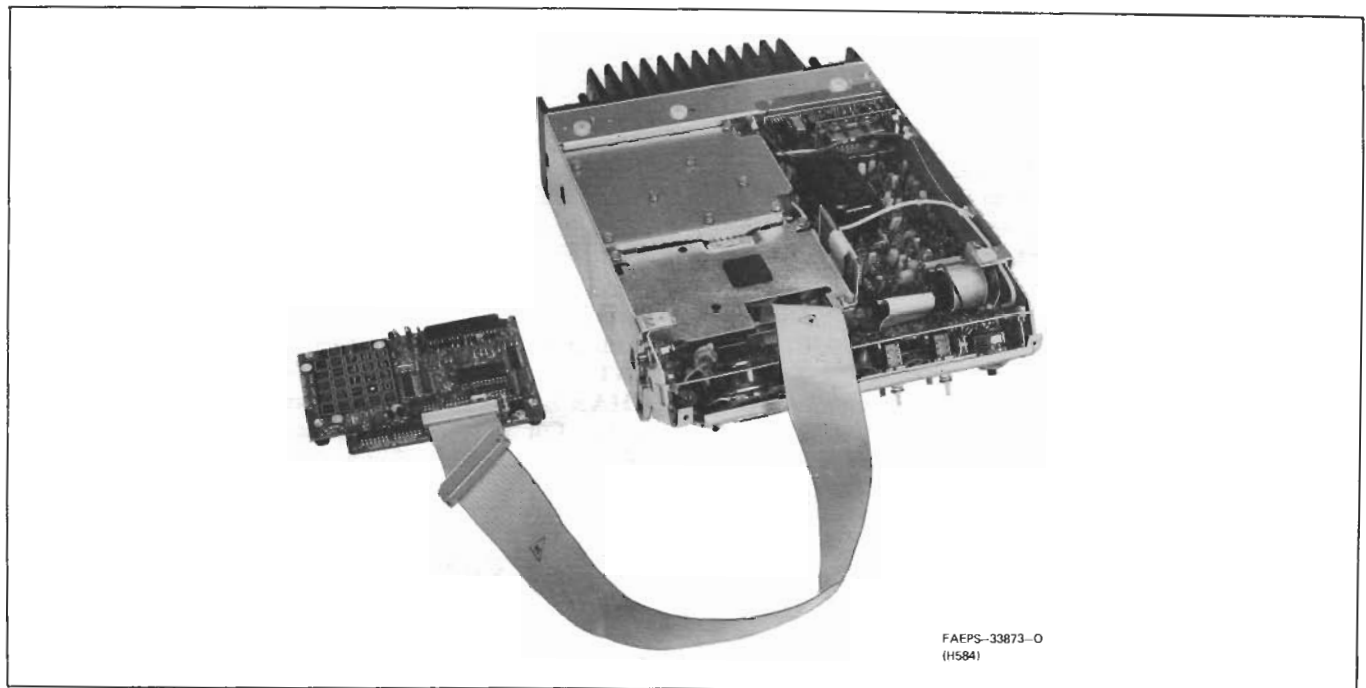

Figure 4. Programming Board With Extension Cable
Step 4. Locate the 34-pin programming board connection header on the "S" board through the opening in the shield. Carefully attach the female connector on extension cable to the header. Carefully attach the connector on the programming board cable to the male connecting header on the extension cable. The connectors and headers are mechanically polarized. Refer to Figure 4.